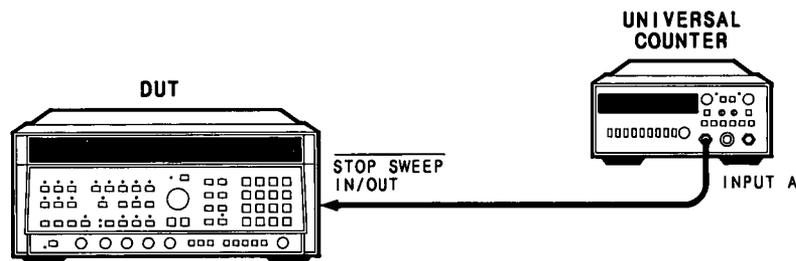

Figure 4-3. Sweep Time Accuracy Test Setup
1. Connect equipment as shown in Figure 4-3. Switch the DUT POWER to ON. Allow the equipment to warm up for one hour.